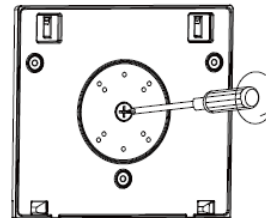

Fig. 2.3
3. Use a screwdriver to remove the plug (Fig. 2.3).